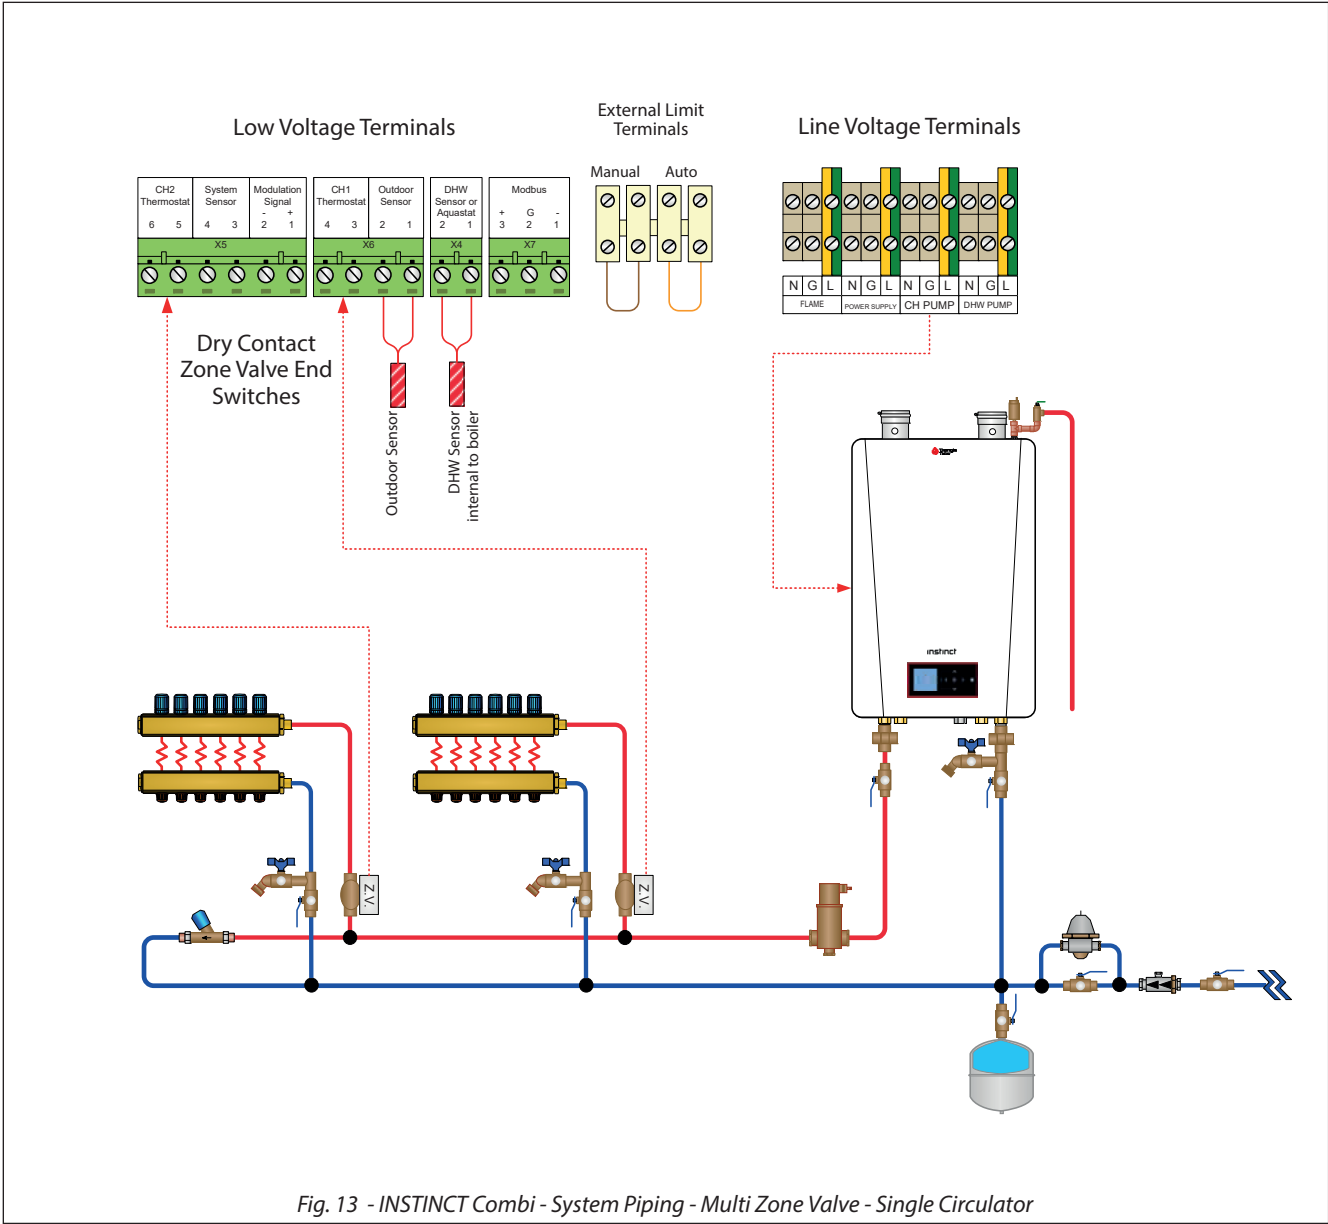

Fig. 13 - INSTINCT Combi - System Piping - Multi Zone Valve - Single Circulator
*Fig. 13 on page 25* illustrates a multiple zone valve system with a single system/boiler circulator. A by-pass loop with a pressure differential valve must be installed on the system piping.